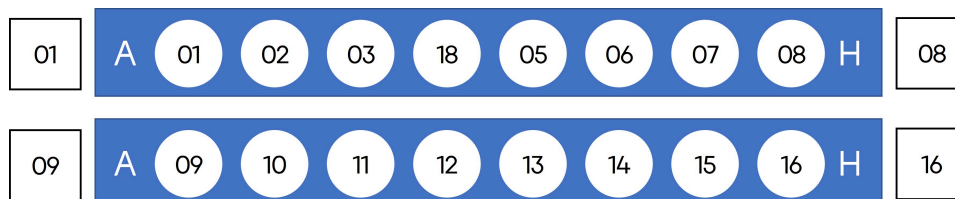

Figure 6 Barcode layout (16 RXN)
3. For detailed barcode information for each specification, please refer to “Figure 6 Barcode layout (16 RXN)” on page 49 and “Figure 7 PCR BC Primer-96 layout” on page 51.